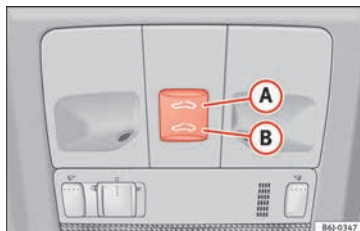

Fig. 9 On the interior roof lining: Panoramic sunroof controls
- Opening: Press the » » **Fig. 9 A** button once only. If you keep it pressed down, it will open to the desired position.
- Closing: Press the » » **Fig. 9 B** button once only. If you keep it pressed down, it will close to the desired position.